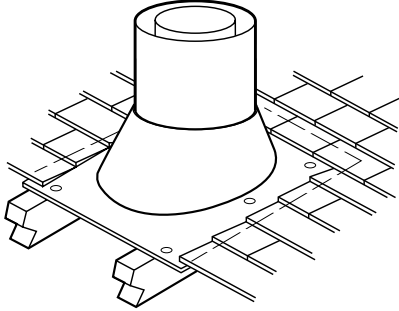

Figure 27
Step 7. Secure flashing by nailing along the perimeter into roof using 8d nails or equivalent fasteners. If shingled roof, slide upper end and sides of roof flashing under shingles (trim if necessary), seal the top and both sides of the flashing to the roof with roof caulking. Cover fastener heads with roof caulking (Figure 27).